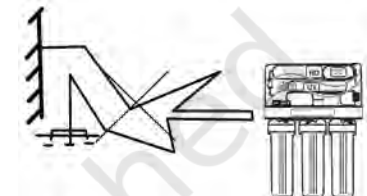

Fig. 4.96
- Avoid sharp turns in the pipe fitting. Do not bend or block the rejected water pipe as shown in Fig. 4.96.